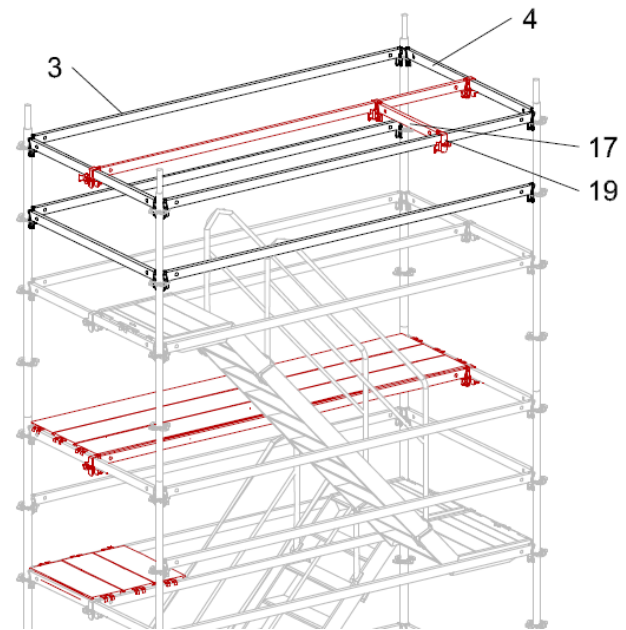

Fig.A7-3
Reposition Steel Decks UDG 75 (16) to position shown (Fig. A7-3).